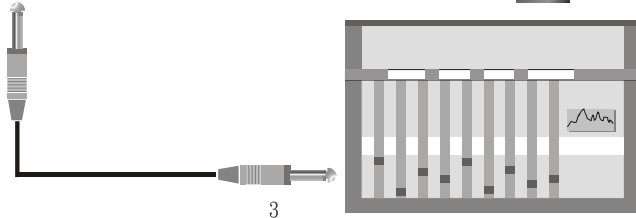

Fig. 2.
1. Connect the AF output of the receiver from unbalanced output jack ⑥ to input jack of the mixer by an output cable attached with "PHONE" plug, as shown in Fig. 2.